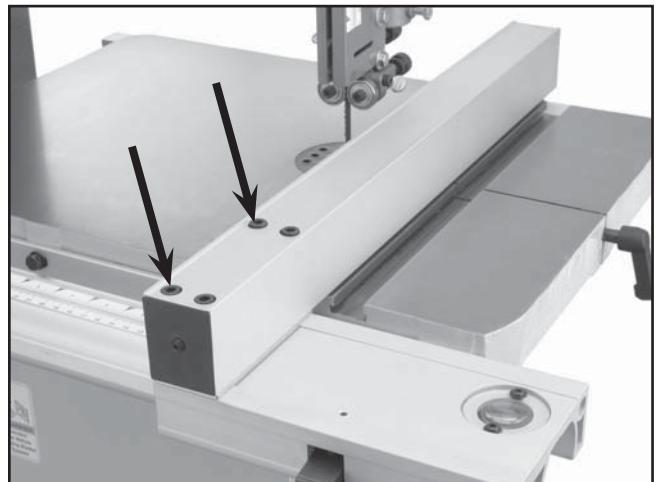

Figure 25. Fence cap screws.
2. Loosen the 4 cap screws located on the top face of the fence (**Figure 25**).